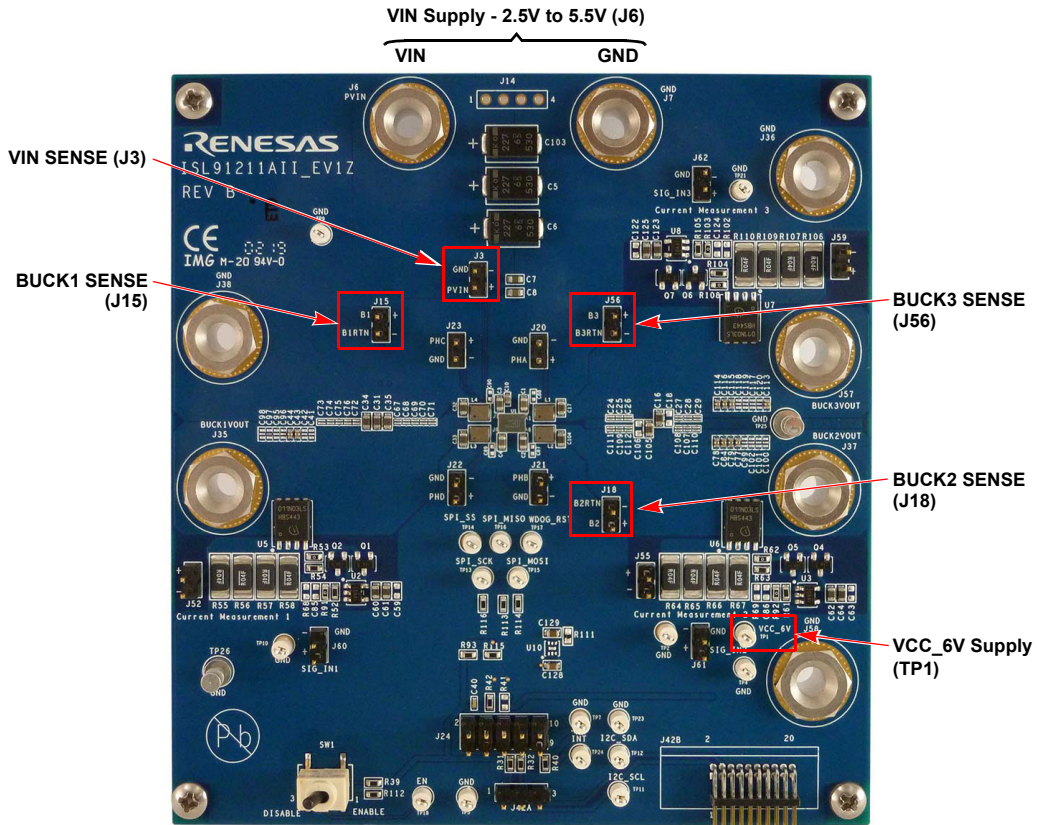

Figure 11. ISL91211AII-EV1Z Efficiency Measurement Connections
5. To determine efficiency, measure input and output voltages at the Kelvin sense test points (S+ and S-), which are located at J3 (VIN SENSE) and J15 (BUCK1 SENSE), J18 (BUCK2 SENSE), or J56 (BUCK3 SENSE) headers. Measure the input and output currents from the VIN power supply and the electronic load. Calculate efficiency based on these measurements. For detailed setup information, see Figure 11 on page 11.